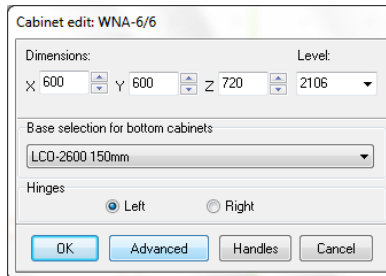

Fig. 163 – Cabinet edition
- the **Cabinet edit** window, presented below, will display (Fig. 163);